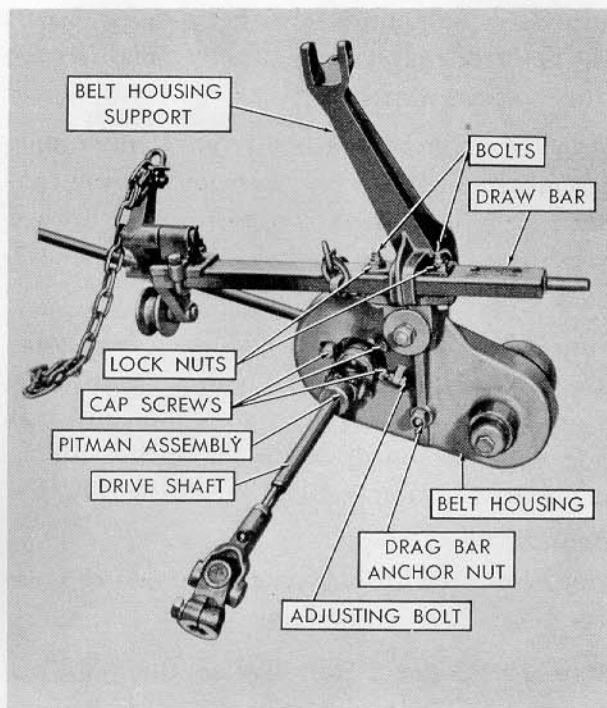

Figure 4
**Step 7:** Assemble the belt housing and pitman assembly to the drawbar. Insert bolts. Pull drawbar back against the casting nut before tightening lock nuts. (See Figure 4)
**Step 12:** Insert drive shaft and drive shaft bearing assembly through opening in belt housing until the driving pulley rests on the drag bar anchor pin boss. (Turn adjusting bolt until it is in its fully-released position.) (See Figure 4)
**Step 14:** Slip the drive pulley assembly in place with the lug on the bearing housing toward the adjusting bolt. (See Figure 4)
**Step 31:** Tighten the drag bar anchor pin nut securely. (See Fig. 4). Insert cotter pin.